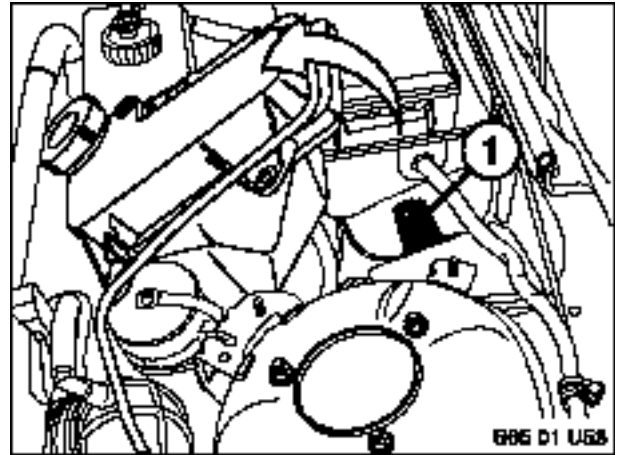

Figure 2
- 1.5 See Figure 2 Carefully pull up on coolant reservoir assembly and position towards the engine to gain access to siren mounting bracket (1).